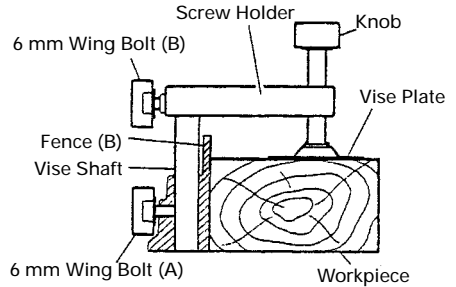

Fig. 7
4. Using the Vise Assembly (Standard accessory) (Fig. 7)